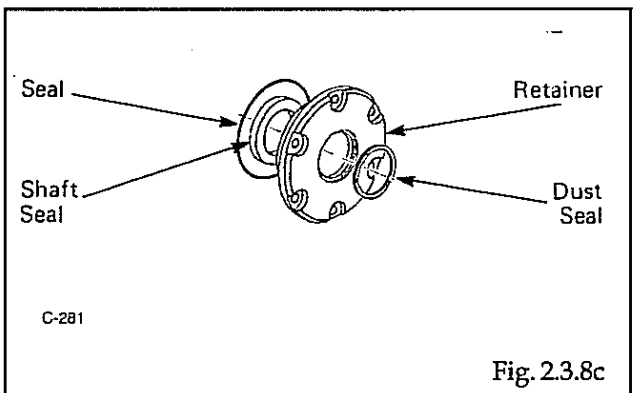

Fig. 2.3.8c
3. Install the dust seal in the retainer plate (Fig. 2.3.8c). The metal side of the dust seal must face upward.
4. Install the retainer seal in the shaft seal (Fig. 2.3.8c). The smooth or flat side of the shaft seal must face toward the retainer (Fig. 2.3.8d).